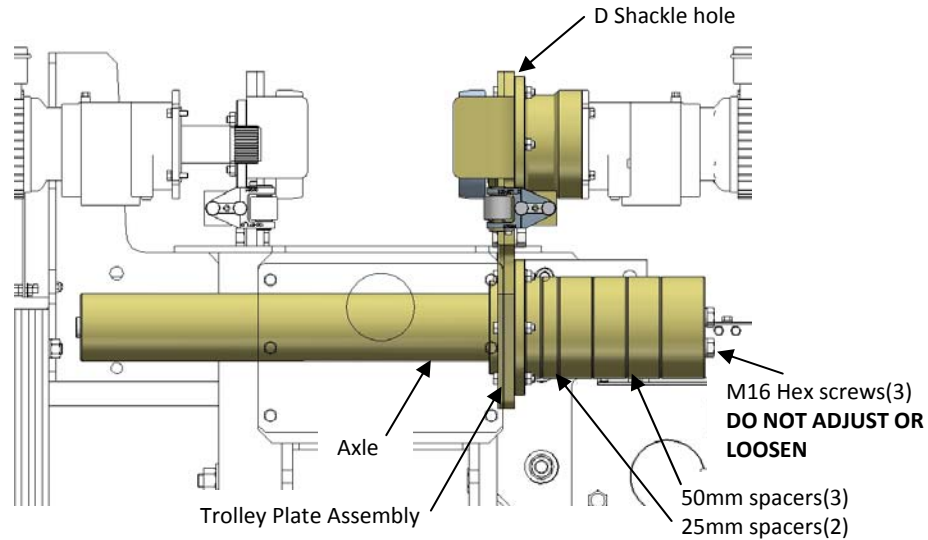

Figure 22 – CT Trolley Plate Assembly- Hoist Panel side
- Remove/slide the complete Trolley Plate Assembly 'Hoist Side', See Figure 22, including the axle and spacers from the hoist. Place aside onto a suitable surface. Use the D shackle holes for suitable lifting equipment (150 kg), place aside.
**It is important that the 'Hoist Side' M16 Hex screws(3) are NOT adjusted or loosened, See Figure 22, this ensures correct assembly when the Trolley Plate Assemblies are re-assembled.**
- Holding the Trolley Plate Assembly 'Hoist side', push the axle through and remove the 50mm(3) and 25mm(2) spacers, see Figure 22.